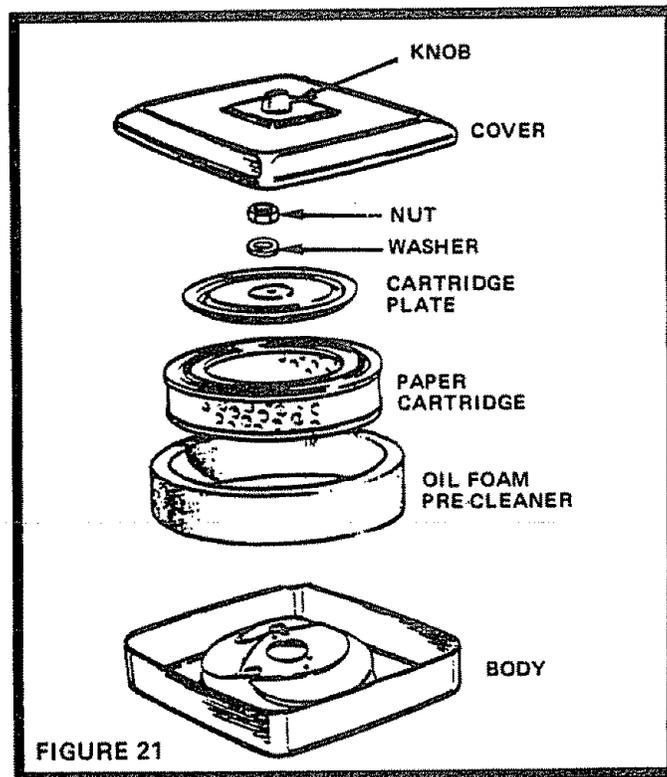

FIGURE 21
- Unscrew Knob (Fig. 21) to remove Cover.